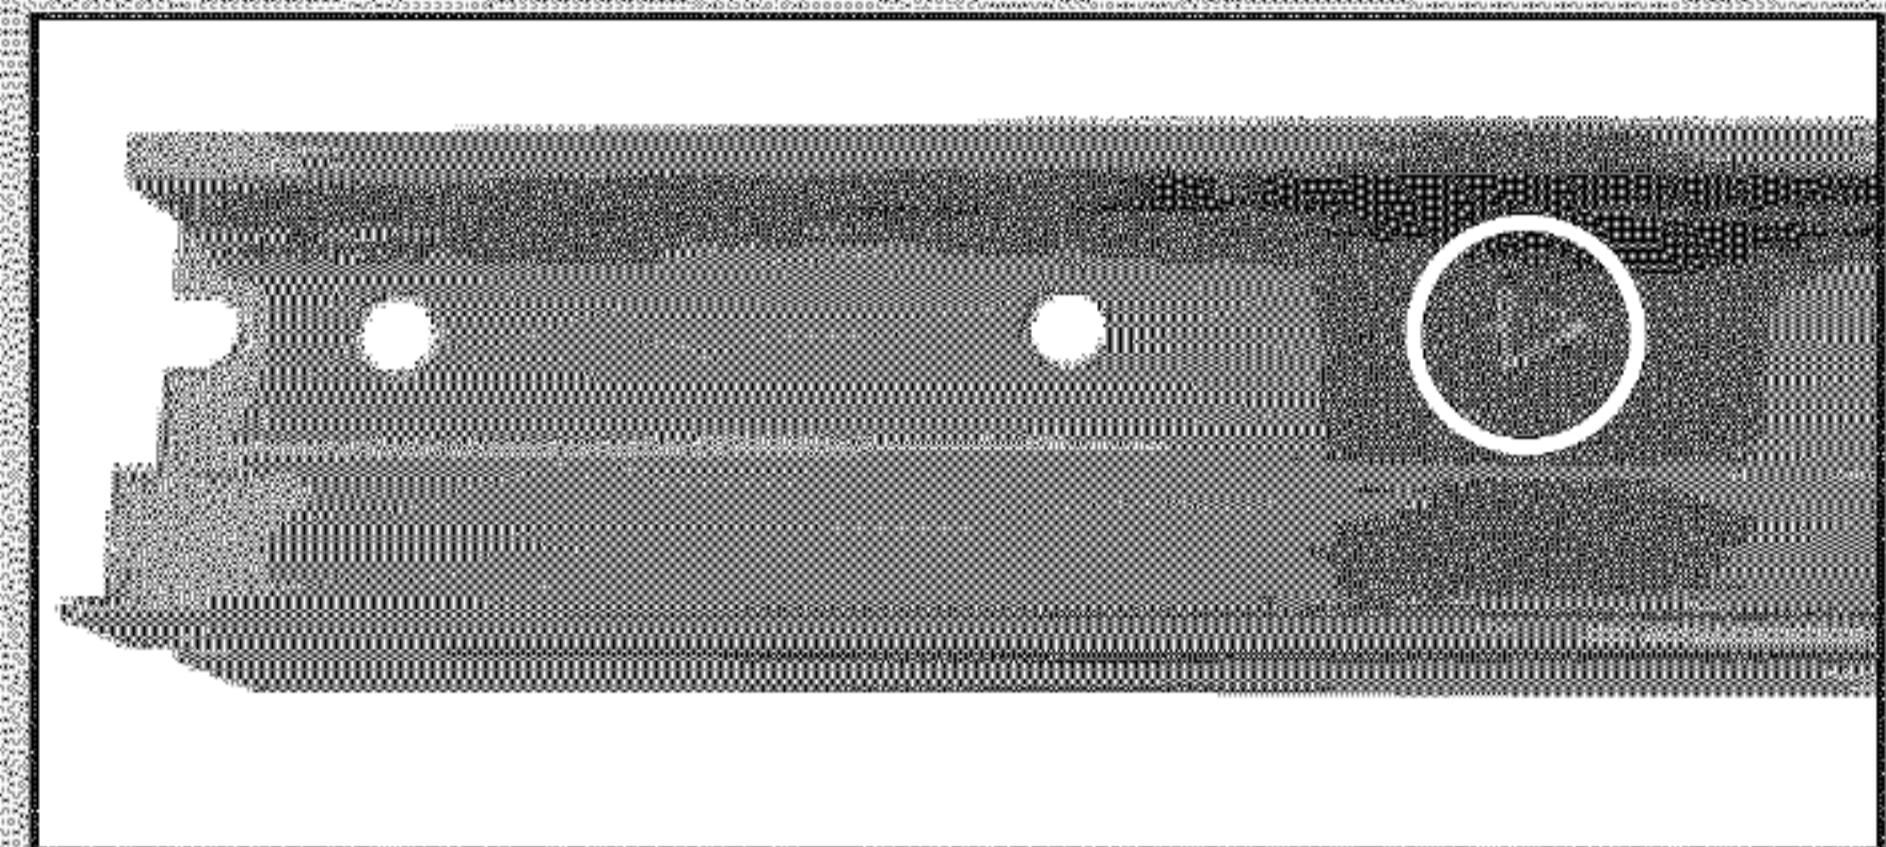

FIG. 1-2 Alignment arrows.
- Aim all arrows toward door. (Fig. 1-2)